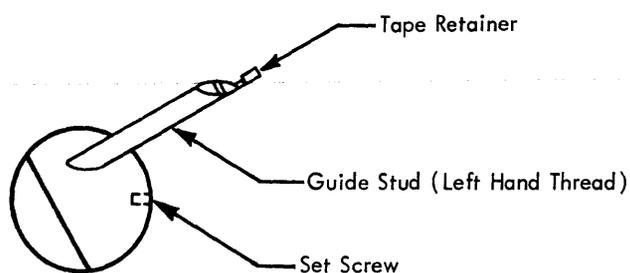

Figure 4-13. CRF Tape Guide
1. Loosen the CRF tape guide set screw (Figure 4-13).
3. Position the tape retainer (Figure 4-13) on the guide assembly so that the left edge is $\frac{1}{32}$ " from the tape by loosening the slotted guide stud.